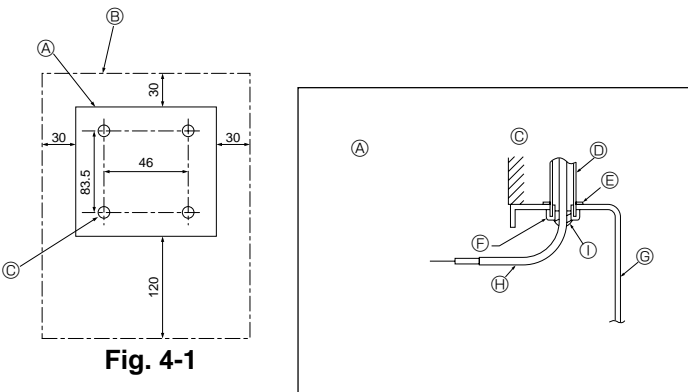

Fig. 4-1
(1) Select an installing position for the remote controller. (Fig. 4-1)
[Fig.4-1]